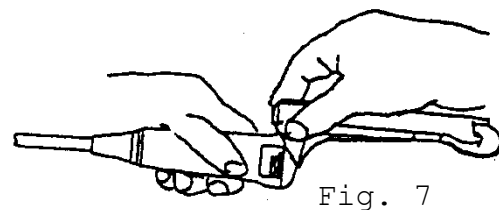

Fig. 7
- 3) Push the other end of the Sterile Puncture Adapter until fix the dents of the Sterile Puncture Adapter to the projection on the probe. (See Fig. 7.)